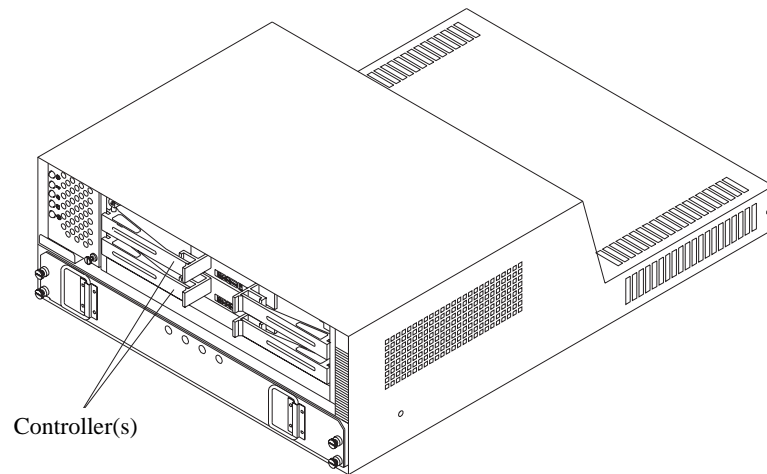

Figure 9. Controller CRUs in Controller Unit
- Array controllers (Figure 9)